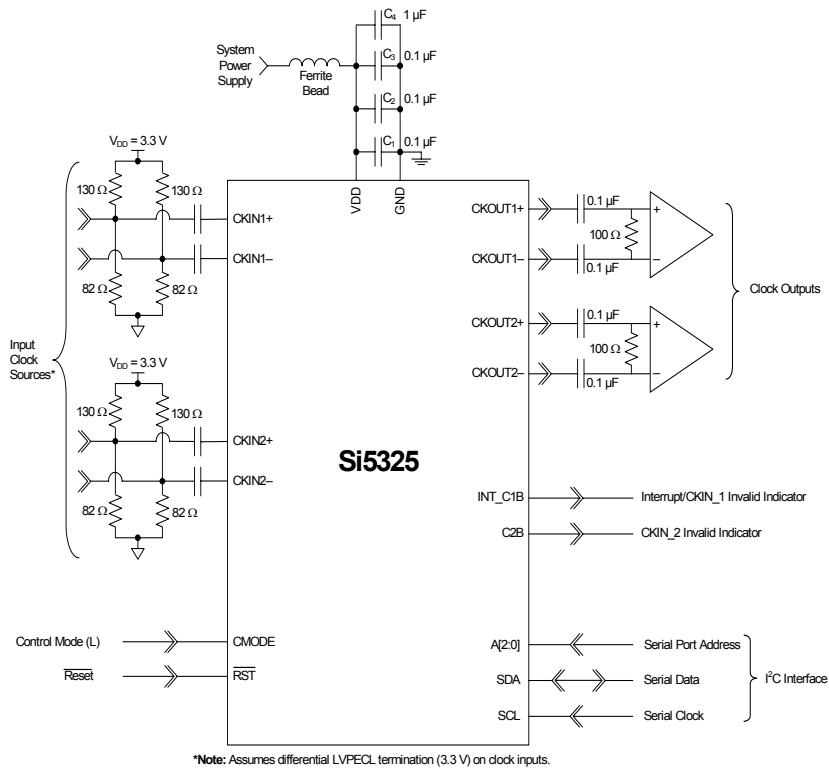

Figure 1. Si5325 Typical Application Circuit (I2C Control Mode)
- Added Figure 1, "Typical Phase Noise Plot," on page 4.